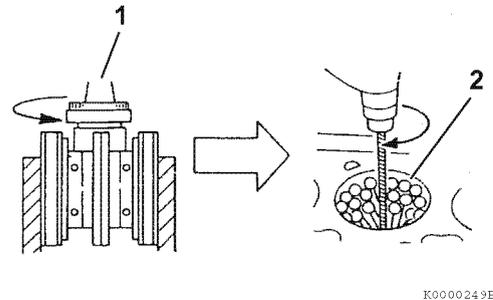

Figure 6-89
2. **Honing** - Minor cylinder imperfections may be corrected by using a rigid cylinder hone (1, **Figure 6-89**). Be sure not to exceed the maximum cylinder bore specification.
Deglazing - A used cylinder that did not require boring or honing, should always be deglazed with a ball hone (2, **Figure 6-89**) before installing new piston rings. This will properly prepare the cylinder surface to allow new piston rings to seat properly.
- Use a 300-grit hone at 300 - 1200 min⁻¹ (rpm). (**Figure 6-89**)